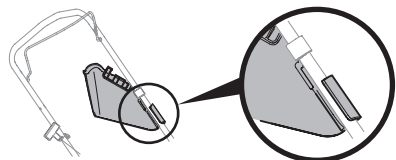

Figure 14
**NOTE:** Some side discharge chutes include a clip to secure the discharge chute to the handle. If equipped, the side discharge chute can be secured to the handle when not in use (Figure 14).